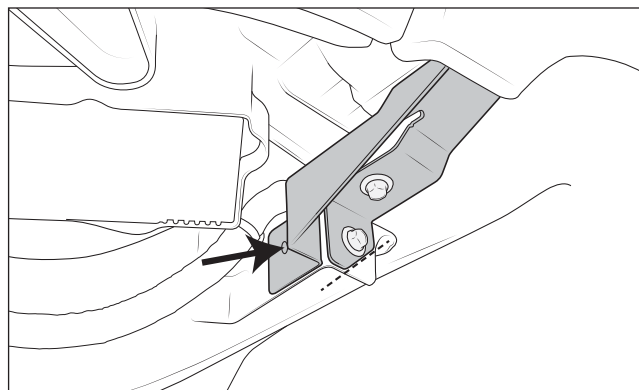

Figure 19
2. Mark cut line and additional hole location on the factory mount. Remove AEV bracket and trim factory mount using an air saw or cut-off wheel. Drill additional hole location out to 3/8". Prep bare metal with a rust inhibitor (fig. 19).